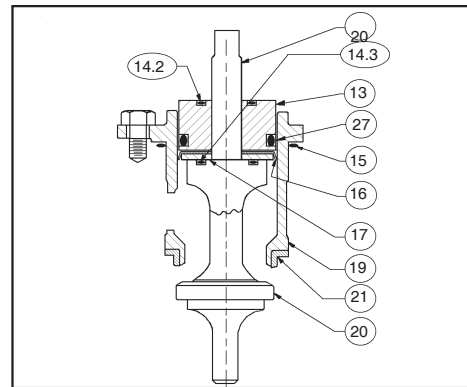

Figure 2: Assembled ITA,
1. Removal of piston-guide bearing (13).
- a. For a regulator with a composition diaphragm(s) (see figure 2); pull the valve plug (20) downwards and out the piston-guide bearing (13) and out of the lower end of the cage (19). Remove the piston-guide bearing (13) from the upper end of the cage (19).